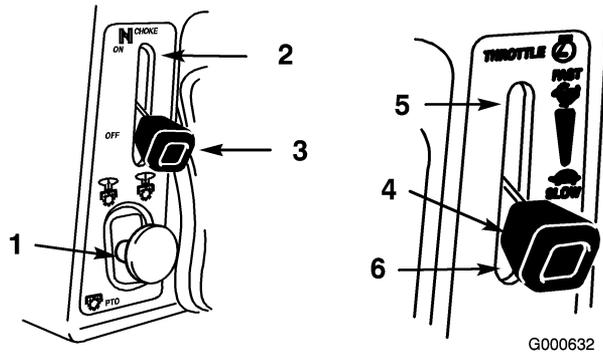

Figure 15
3. Push the PTO (power take off) to the off position (Figure 15).
4. Move the choke lever to the on position (Figure 15).
5. Move throttle lever to the fast position (Figure 15).
7. After the engine starts, move the choke lever to off (Figure 15). If the engine stalls or hesitates, move the choke lever back to on for a few seconds. Then move the throttle lever to desired setting. Repeat this as required.
1. Push the PTO (power take off) to off (Figure 15).
2. Move the throttle lever between half and full throttle (Figure 15).